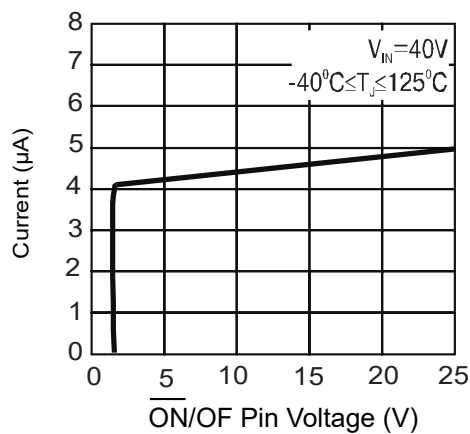

Figure 11: ON/OFF Pin Current (Sinking)
A. Refer to the table shown in Figure 11. In this example, a 5A, 20V, 1N5823 Schottky diode will provide the best performance, and will not be overstressed even for a shorted output.